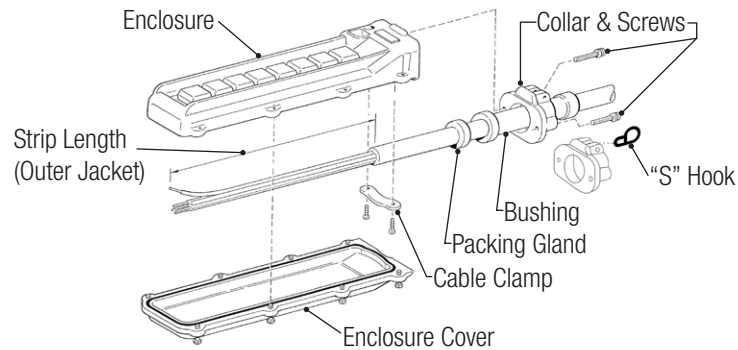
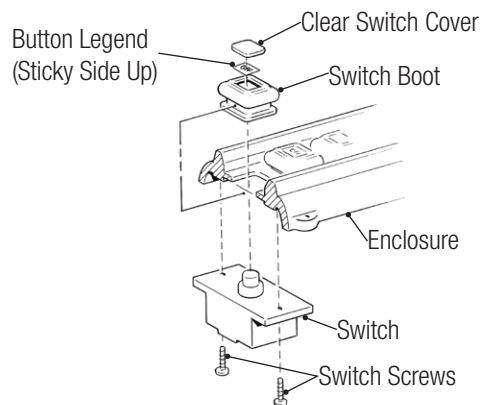

Figure: 4.1
Figure: 4.2
4.0 Disassembly of the Enclosure (see figure 4.1)
4.1 Mounting Switches (refer to Figure: 4.1 & Figure: 4.2)
4.3 Cable Installation (See Figure: 4.1, Page 10)
NOTE: Refer to Figure: 4.1 on page 10 for image.